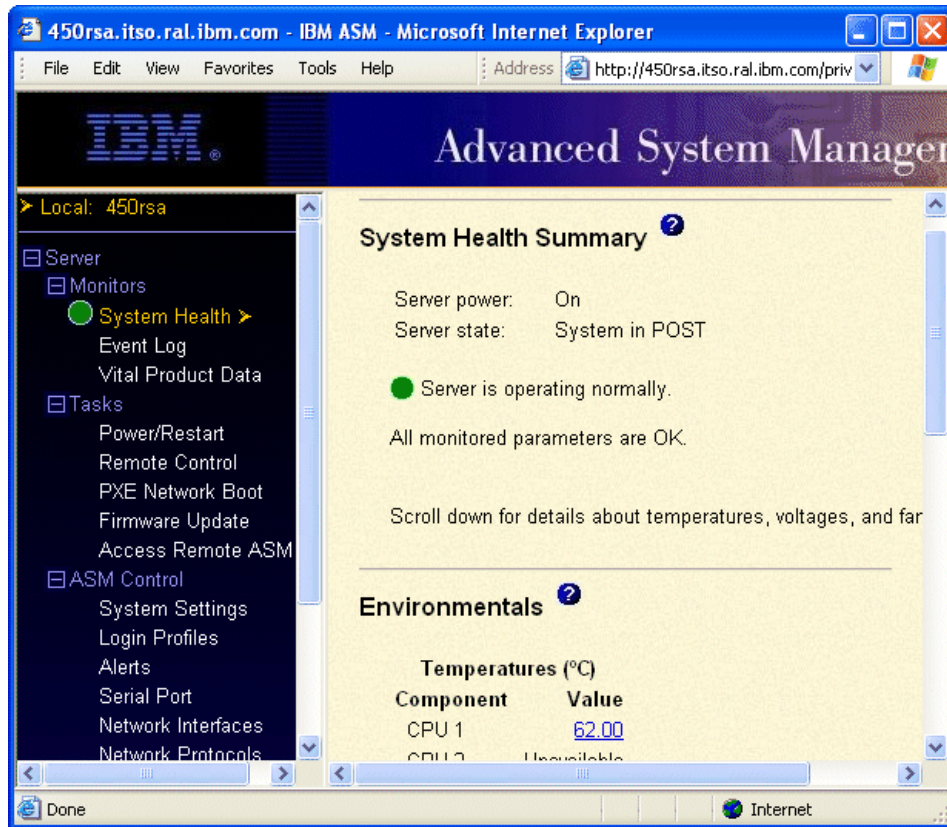

Figure 5-2 Remote Supervisor Adapter Web interface
2. Select **Access Remote ASM** from the main menu (Figure 5-2 on page 121).